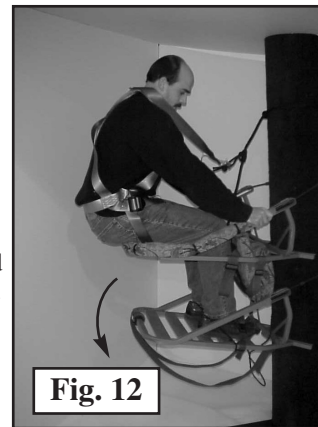

Fig. 12
Step 5. To re-engage the Viper Classic platform, simply rotate the platform back towards the horizontal position until it engages the tree, as shown in **Figure 12**. **DO NOT JUMP OR BOUNCE ON THE PLATFORM** to attempt to cause it to “dig” into the tree. It is not necessary and may cause you to inadvertently disengage the platform.